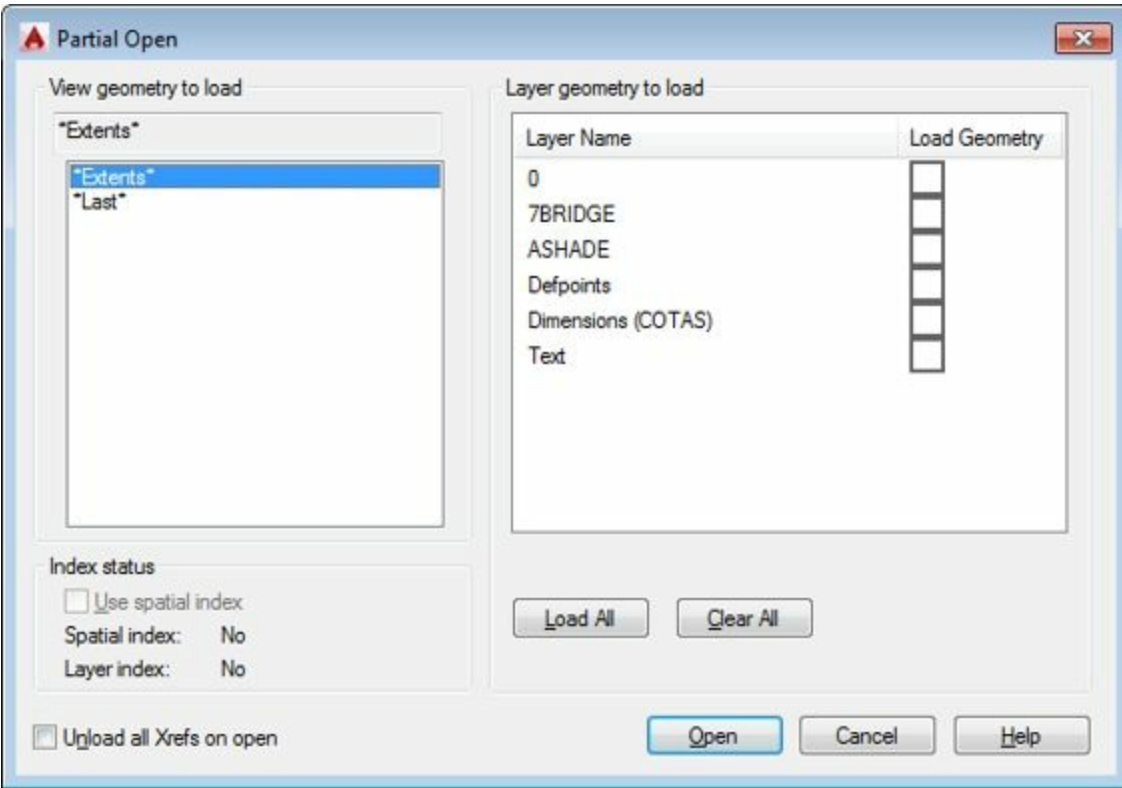

Figure-28. Partial Open dialog box
- If you want to open a drawing file partially, then select the **Partial Open** option from the drop-down. The **Partial Open** dialog box will be displayed as shown in Figure-28.